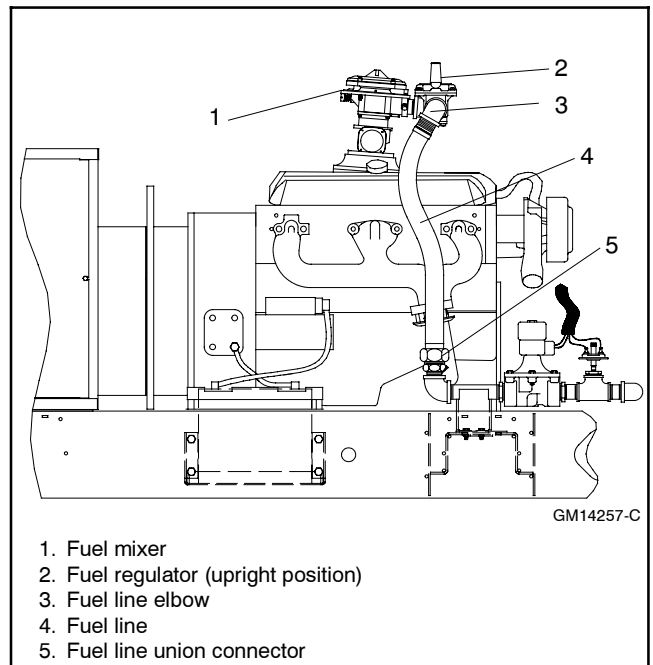
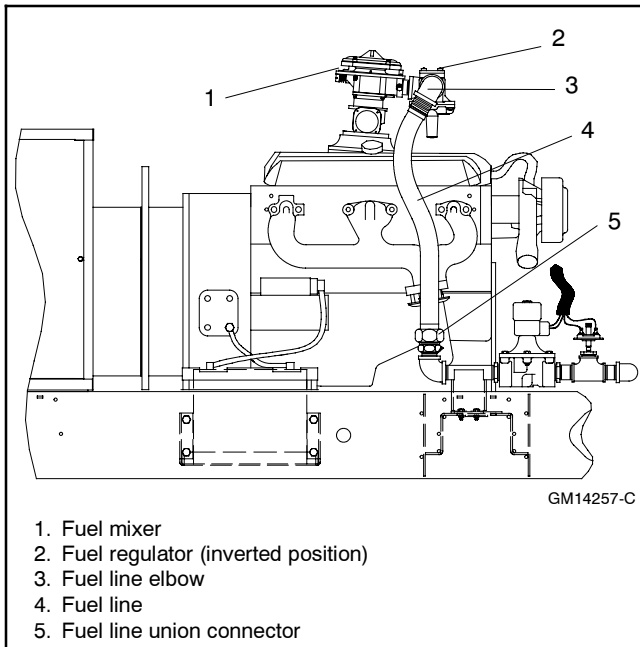

Figure 9-20 Natural Gas Fuel System Configuration
Figure 9-21 LP Gas Vapor Fuel System Configuration
Figure 9-20 and Figure 9-21 show the 50/60 kW models; the 30-45 kW and 80/100 kW models are similar.
- d. Disconnect the fuel line at the union connector. See Figure 9-20.